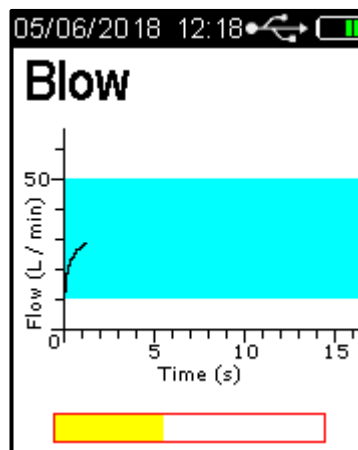

Figure 10 - Sample Process Bar
- The exhaled flow is indicated via a bar graph; showing air flow over time in seconds (Refer to Figure 10). A beeping sound is also heard during the breath sample delivery phase, indicating a satisfactory breath sample is being delivered.